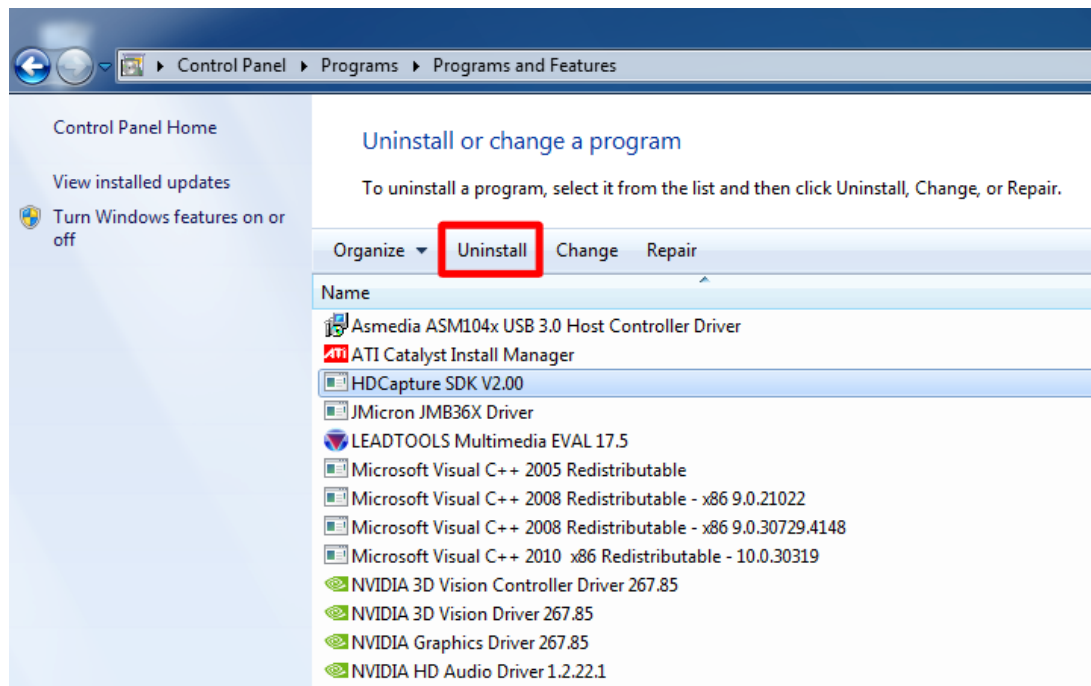

Figure 1-15: Uninstall HDCapture SDK
**Step 2:** Select HDCapture SDK and click the **Uninstall** button to uninstall the HDCapture SDK (**Figure 1-15**).